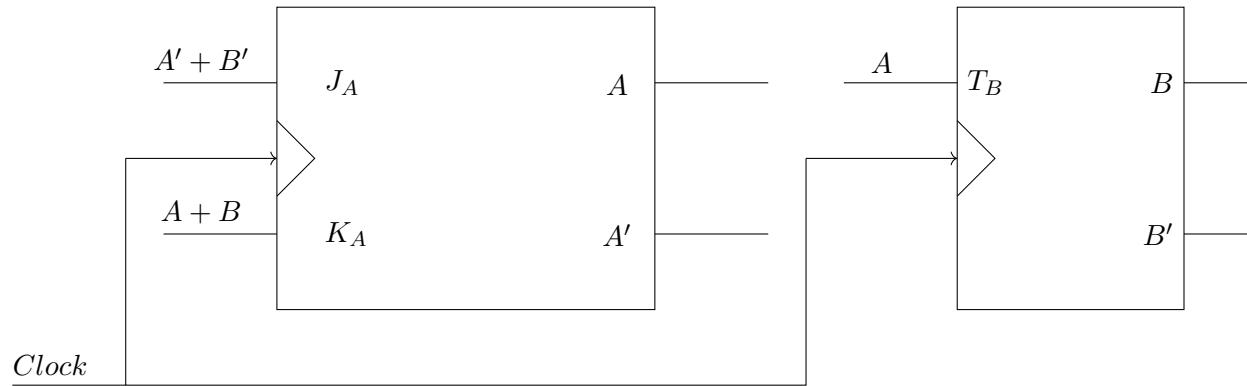

Figure 6.7:
7. Given below Fig. 6.7 is the diagram of a synchronous sequential circuit with one $J - K$ flip-flop and one T flip-flop with their outputs denoted as A and B respectively, with $J_A = (A' + B')$, $K_A = (A + B)$, and $T_B = A$.